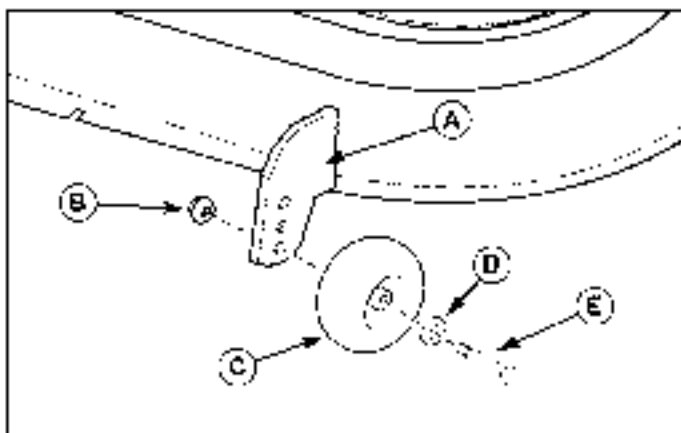

Figure 25. Fixed Bracket Gauge Wheel Adjustment
1. Remove the locknut (B, Figure 25), gauge wheel (C), washers (D), and shoulder bolt (E). Change position of gauge wheel to desired height.
2. Insert shoulder bolt (E) through washers (D), gauge wheel (C), and gauge wheel bracket (A). Secure with locknut (B). Repeat Steps 1 & 2 for all gauge wheels.